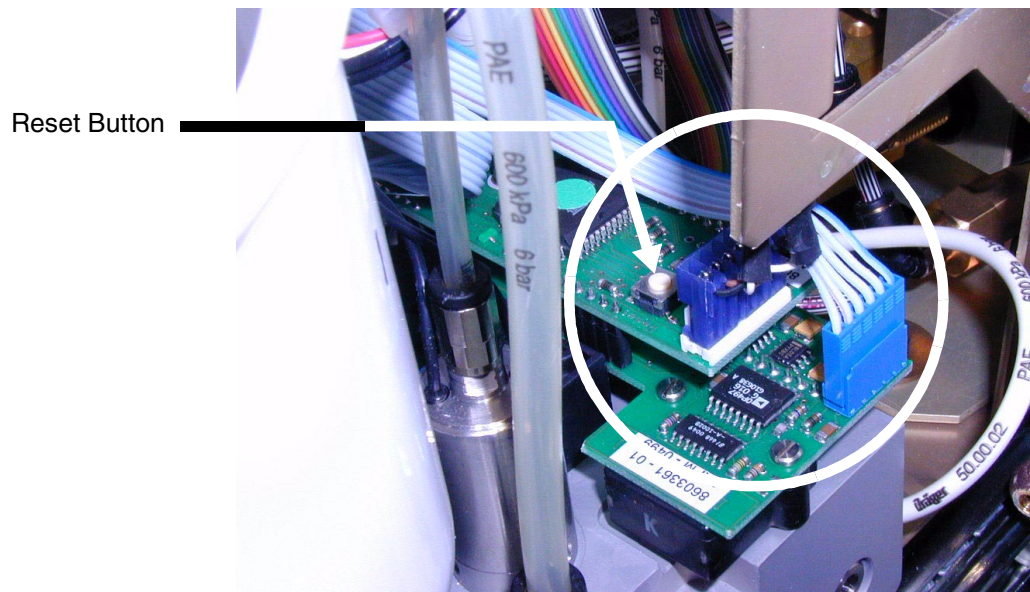

Fig. 2: Installing the connectors of the Pressure PCB
8. Reinstall the EDOS block and join both connectors to the Pressure PCB (see Figure 2).
3. Press the reset button (see Figure 2) on the new Pressure PCB.